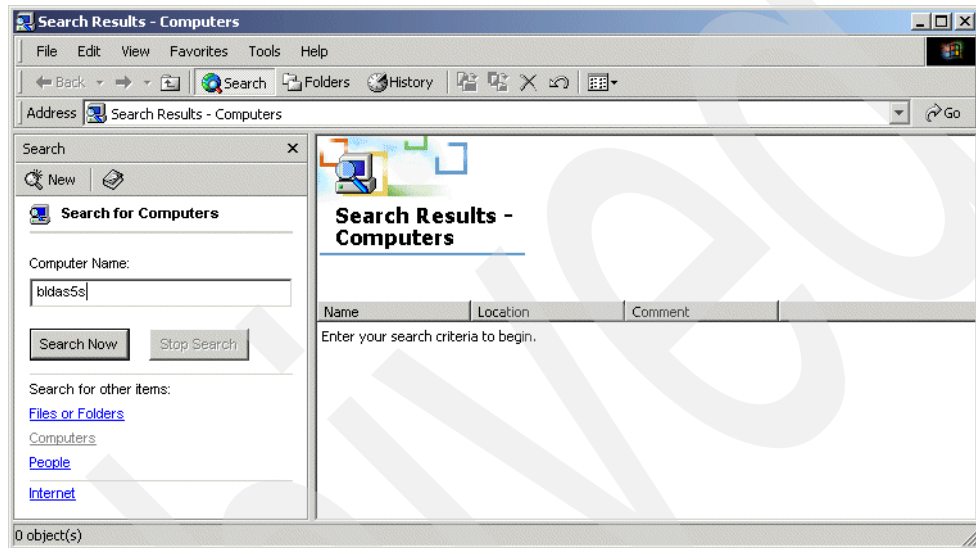

Figure 118. Searching for a computer
1. Select the Network icon on your workspace. Right-click and select **Search for Computer** in the menu. A search window appears as shown in Figure 118.